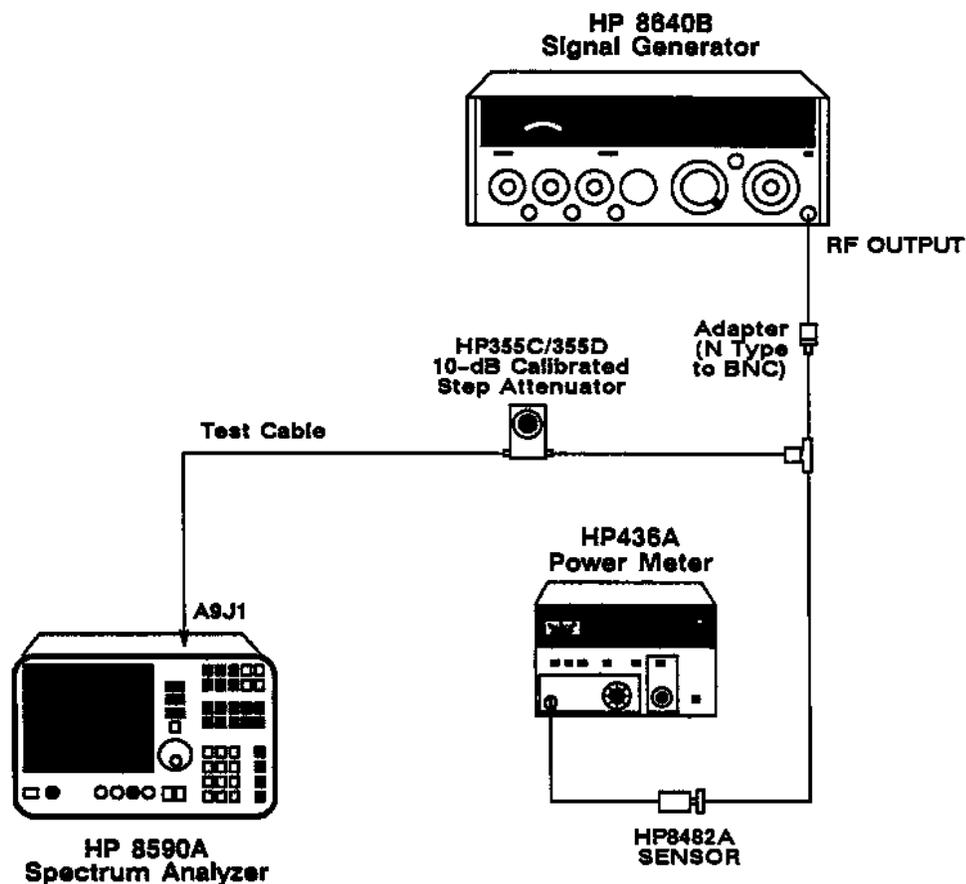

Figure 2-5. Step Amplifier Gain Adjustment Test Setup
1 ① Connect the equipment as shown in Figure 2-5. Set the signal generator to output a 321.3-MHz, -14 dBm, CW signal. Connect the signal generator to one side of a 10-dB step attenuator.